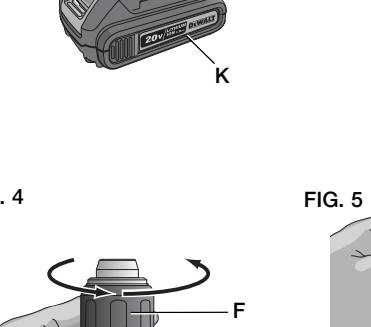

FIG. 3
### Charging Procedure (Fig. 3)
2. Insert the battery pack (K) into the charger, as shown in Figure 3, making sure the pack is fully seated in charger. The red (charging) light will blink continuously, indicating that the charging process has started.